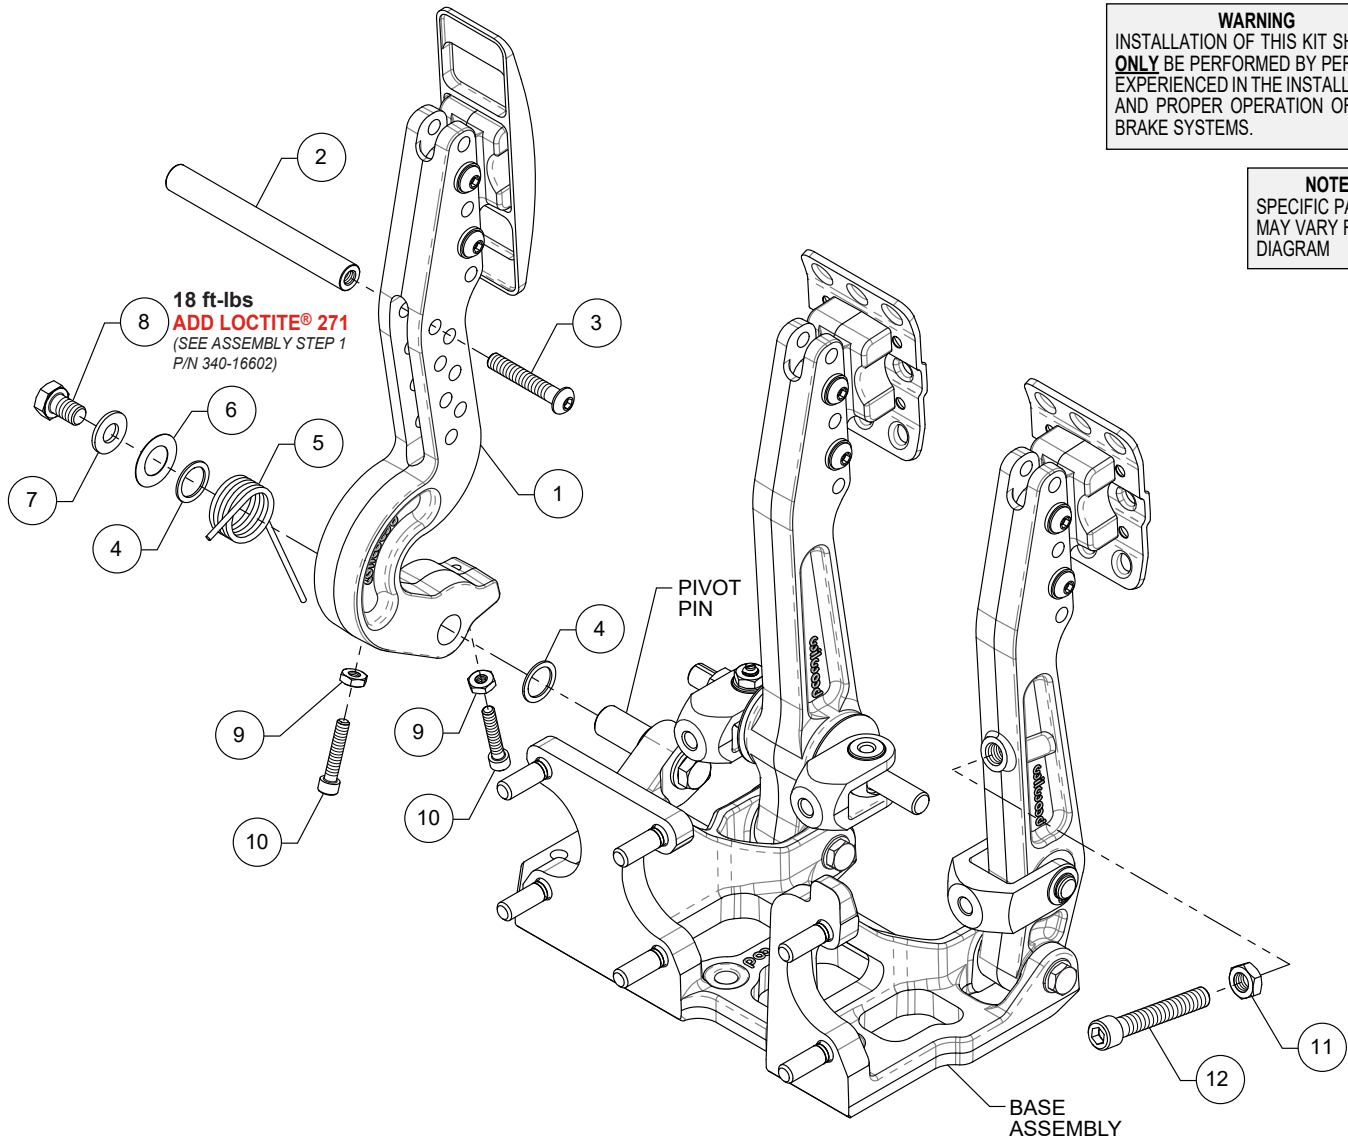

Figure 1. Throttle Pedal Assembly Configuration for Pedal Assembly p/n's 340-16602 and 340-16603
NOTE: Numbers in parenthesis refer to the parts list and Figure 1 on page 3.
STEP 1 Slide nylon shim (4) and then throttle pedal (1) onto pivot pin of base assembly. Install pedal return spring (5), then secure using nylon shim (4), wave washer (6), washer (7) and bolt (8), as shown in Figure 1. Apply red *Loctite*[®] 271 and torque to value shown in Figure 1.
STEP 2 Screw the throttle pedal stop bolts (10) into nuts (9) and then into the throttle pedal (1), front and rear. **NOTE:** Final adjustment of the stop bolts will be performed after pedal installation in vehicle.
STEP 3 Screw the clutch stop bolt (12) into nut (11) and then into the clutch pedal, as shown in Figure 1. **NOTE:** Final adjustment of stop bolt will be performed after pedal installation in vehicle.
STEP 4 **NOTE:** For rear engine installation only: Install the rear throttle pull rod (2) to the throttle pedal (1) using bolt (3).